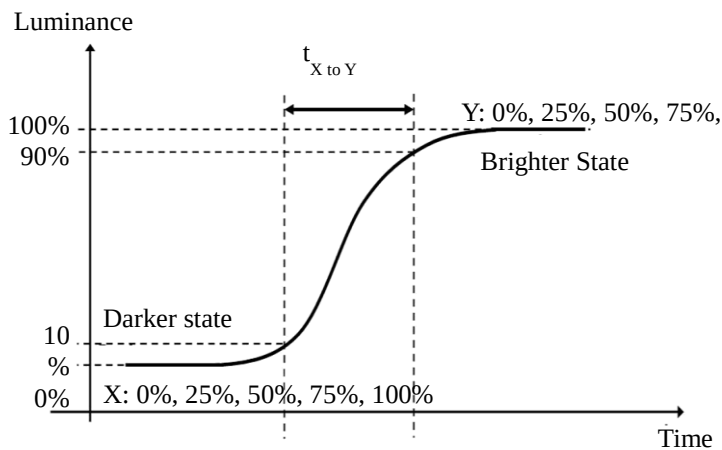

Fig. 6.4 The definition of t_X to Y
(3) Response time T_L is defined as the average transition time in the response time matrix. The table below is the response time matrix in which each element t_X to Y is the transition time from luminance ratio X to Y . X and Y are two different gray level among 0%, 25%, 50%, 75%, and 100% gray level. The transition time t_X to Y is defined as the time taken from 10% to 90% of the luminance difference between X and Y ($X < Y$) as illustrated in Fig.6.4. When $X > Y$, the definition of t_X to Y is the time taken from 90% to 10% of the luminance difference between X and Y . The response time is optimized on refresh rate $F_r = 60\text{Hz}$.